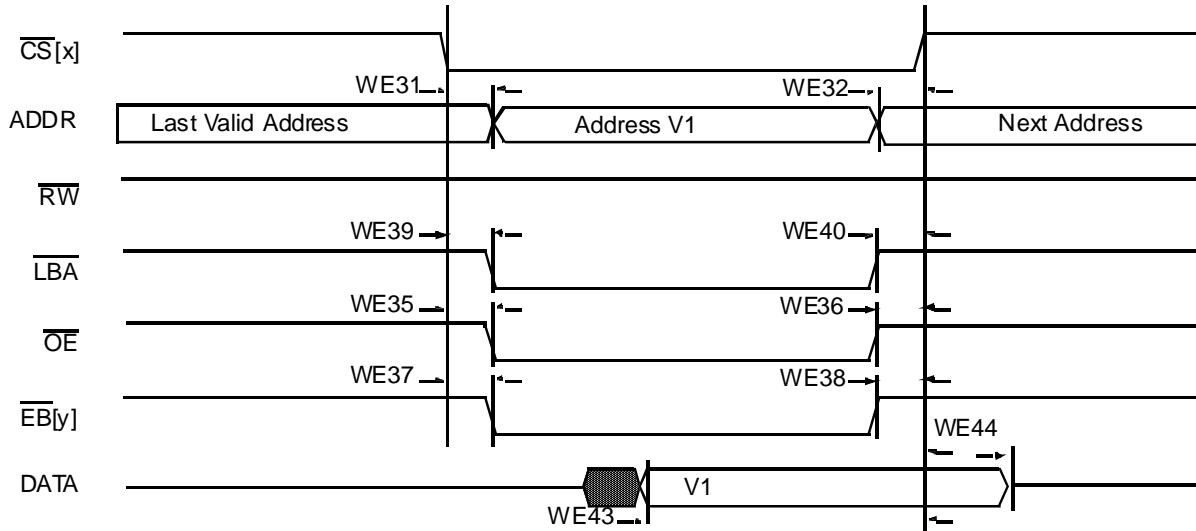
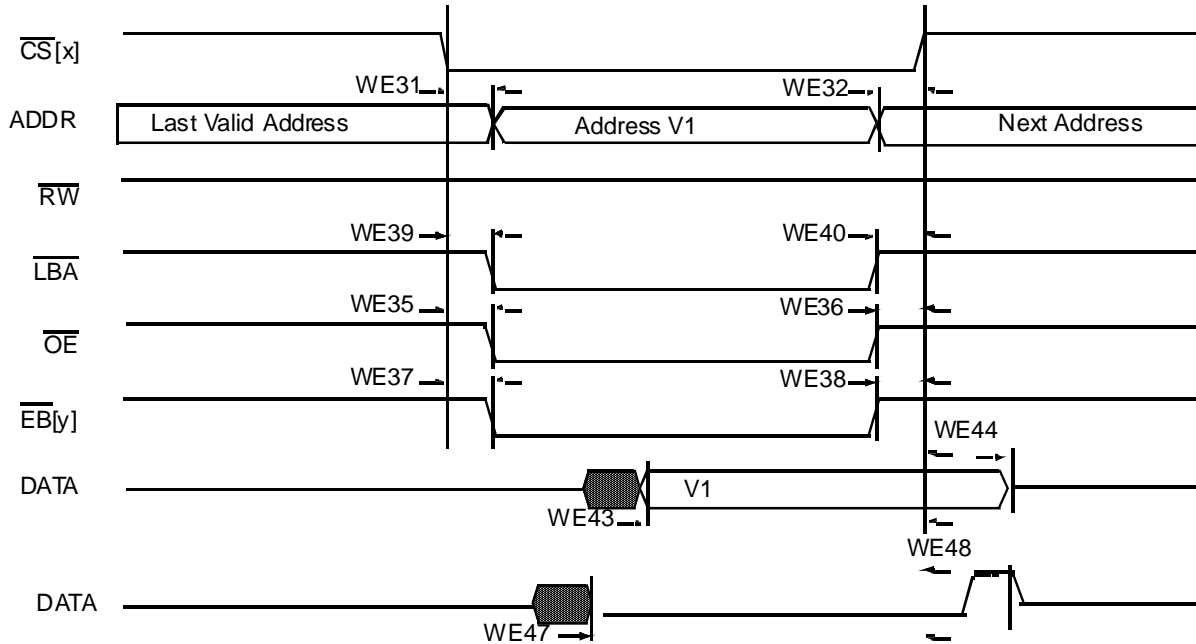

Figure 45. Asynchronous Memory Read Access
Figure 49. DTACK Read Access
Figure 45 through Figure 49, and Table 53 help to determine timing parameters relative to chip select (CS) state for asynchronous and DTACK WEIM accesses with corresponding WEIM bit fields and the timing parameters mentioned above.